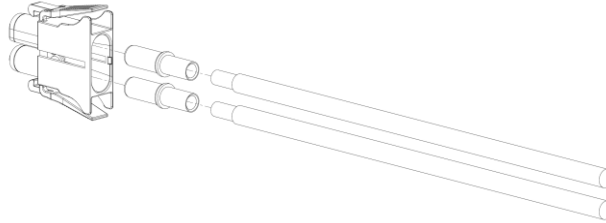
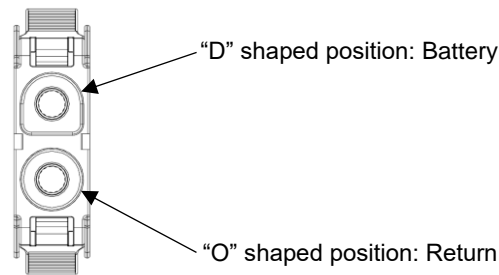

Fig. 2-17: Insert Crimped Terminals
Fig. 2-18: Connector Front View
53. Insert terminals into plug housing as shown in Fig. 2-17 and Fig. 2-18. The battery terminal goes in the “D” shaped position on the connector. The return terminal goes in the round housing position.